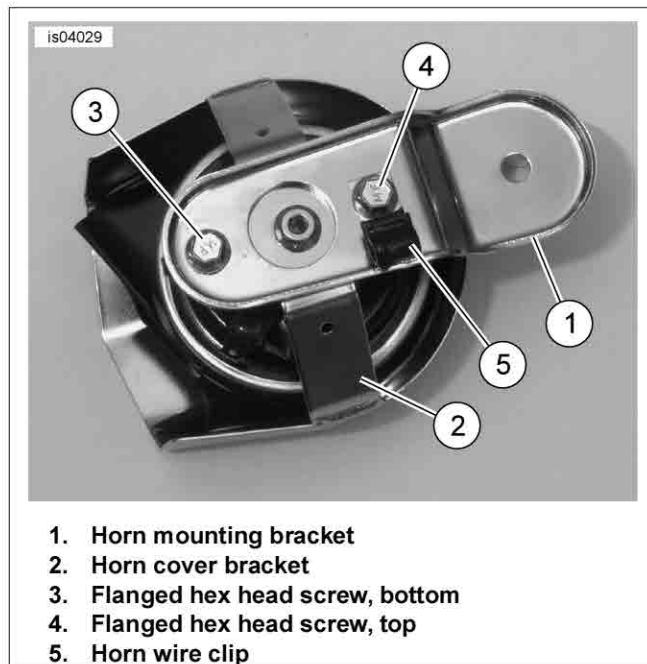

Figure 2. Horn Mounting Bracket Installation
6. Push the two speed nuts (7) from the kit over the holes in the top and bottom ears of the horn cover bracket.
7. See Figure 2. Align the horn mounting bracket (1) over the speed nuts on the horn cover bracket (2). Install one of the flanged hex head screws (3) from the kit through the bottom speed nut.
8. Insert the remaining screw (4) through the hole in the horn wire clip (5), and secure the screw to the top speed nut. Tighten the screws to 5-8 in-lbs (.56-.90 Nm).